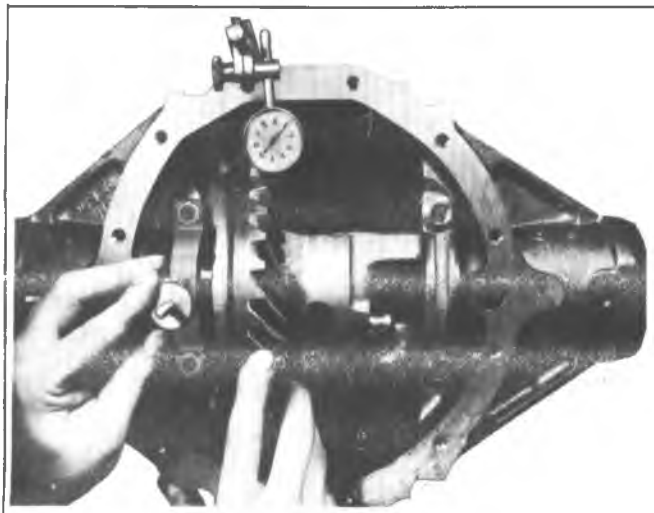

Fig. 6B—Installing Gaging Tool
4. With the ring gear tight against the pinion gear (.000" to .001" backlash), insert gaging Tool J-22779 between the left bearing cup and carrier housing as shown in figure 6B.